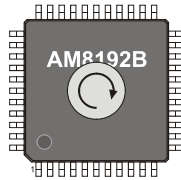
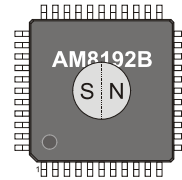

Fig. 3: CW rotation
Fig. 4: Zero position
The arrow in Fig. 3 shows clockwise (CW) rotation of the magnet. The picture is a top view of the magnet placed above the AM8192B. CCW is counter clockwise rotation. Fig. 4 shows a rotational zero position of the magnet regarding to the chip. The picture is a top view of the magnet placed above the AM8192B.